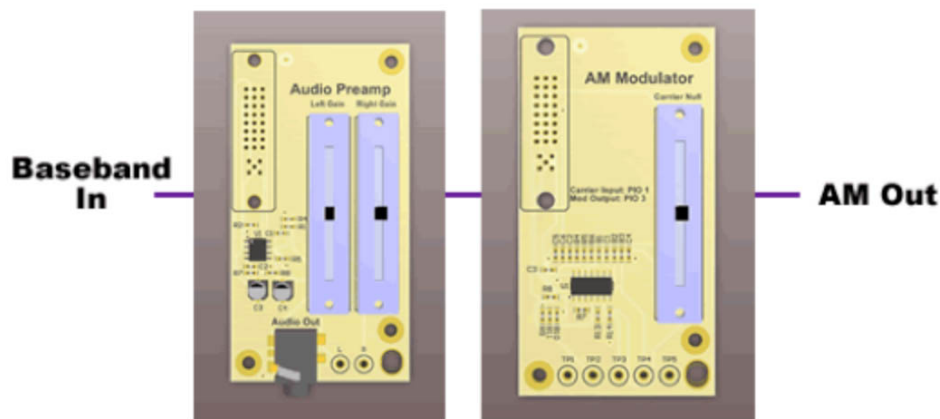

Figure 6: System configuration for standard AM modulation.
* Configure the system for standard AM as shown in Figure 6 below. As an initial test, determine the system response by feeding two audio-frequency (<20kHz) tones to the input pins. The carrier signal amplitude should be 300mVRMS or about 1Vpp. Observe the waveforms on the oscilloscope and listen to the output using the speakers. **NOTE:** if you want to hear the 'volume' swell of the AM signal (which audibly demonstrates 'Amplitude Modulation') be sure you choose an appropriate message frequency (i.e. below ~10Hz). If it is too fast, it will simply sound like another tone.